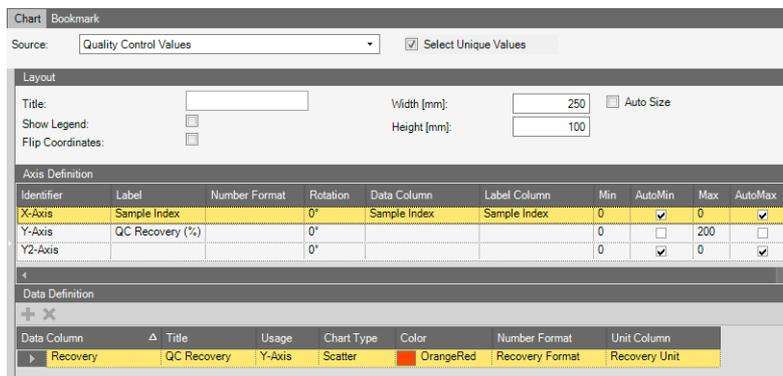
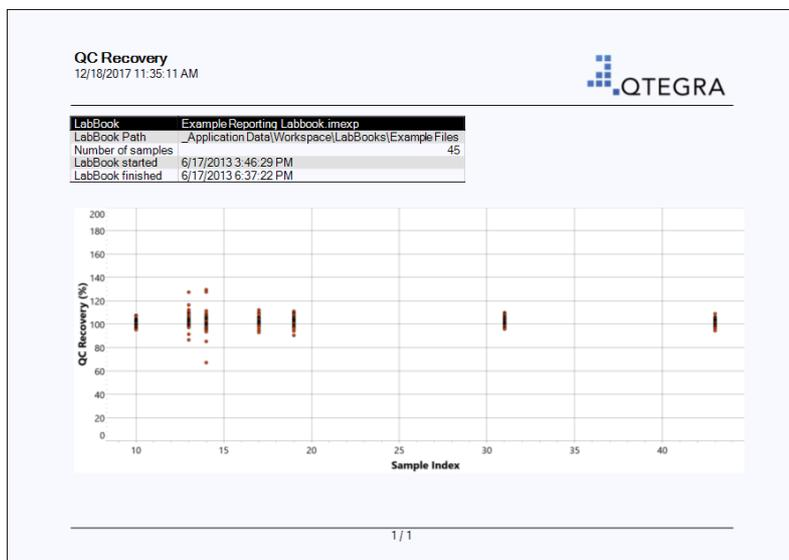

Figure 8-62. Example definition of a Quality Control Recovery Report Template
Figure 8-63. Example for a Quality Control Recovery chart
- The examples in Figure 8-62 and Figure 8-63 show the definition and resulting display from the supplied 'QC_Recoveries' Report Template.